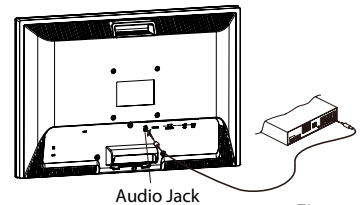

Figure1-7
1. Connect the audio cable to the "LINE OUT" jack on your PC's audio card or to the front panel's "AUDIO OUT" jack of your CD ROM drive. (See Fig. 1-7)